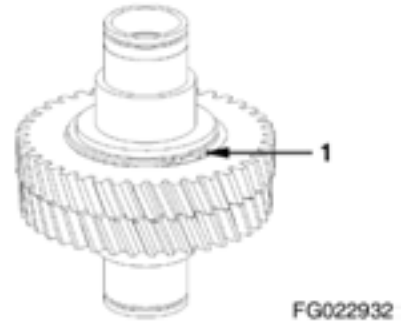

Figure 344
- Secure drive gear using retaining ring 100x3 (1, Figure 344).